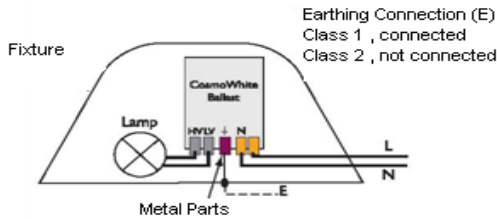

Figure 8
- The dotted line (see Figure 8) shows the difference between Class I and Class II.